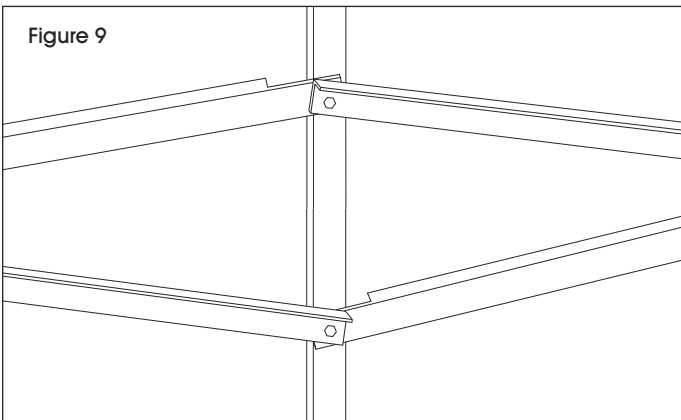

Figure 9
- 4b. Using other end of assembled X-brace from the right frame, attach to the bottom hole and third hole up from the bottom on the middle frame. With the second assembled X-brace, attach to the middle frame using the same bottom hole and third hole up from the bottom (the brace ends overlap). Only one notched end may be on the bottom hole and one on the third hole up from the bottom. Hand tighten. (See Figure 9)